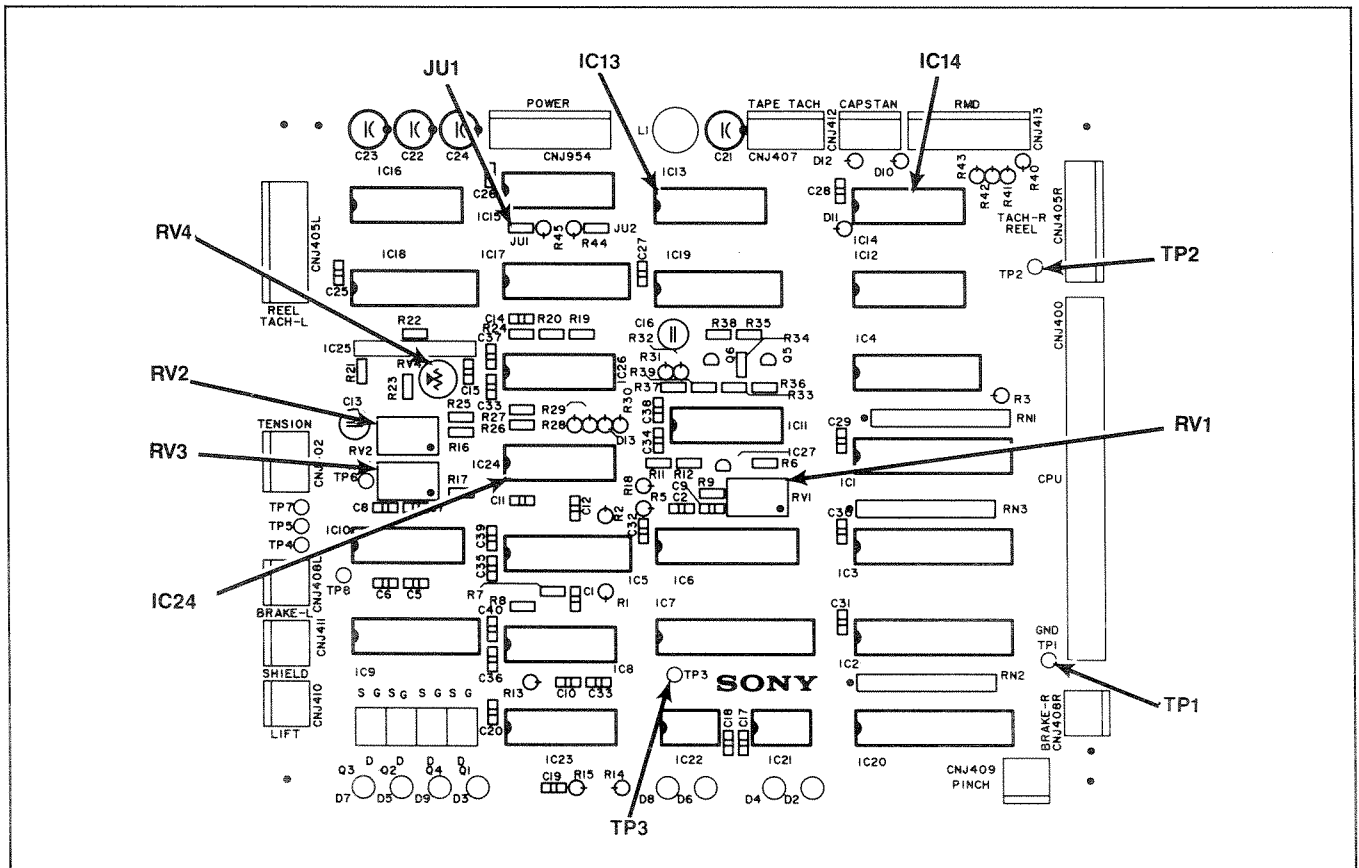

Figure 6-15. TIB PC Board
STEP 4 Probe IC13 pin 8 with the positive lead of the oscilloscope. (See Figure 6-15.) This is the TTSA signal. Set the oscilloscope uncalibrated sweep so that one cycle of the waveform fills the entire screen.
STEP 6 Probe IC13 pin 10 with the positive lead of the oscilloscope. (See Figure 6-15.) This is the TTSB signal. Set the oscilloscope un-
- STEP 12** Probe IC13 pin 6 with the positive lead of the oscilloscope. (See Figure 6-15.) This is the RTSA signal of the take-up motor tachometer. Set the oscilloscope uncalibrated sweep so that one cycle of the waveform fills the entire screen.
- STEP 14** Probe IC13 pin 12 with the positive lead of the oscilloscope. (See Figure 6-15.) This is the RTSB signal of the take-up motor tachometer. Set the oscilloscope uncalibrated sweep so that one cycle of the waveform fills the entire screen.
STEP 3 Using a digital voltmeter, probe TPA on the HES board. Ground voltmeter at TP2 on TIB (signal ground). (See Figure 6-15.) Turn the power switch ON.